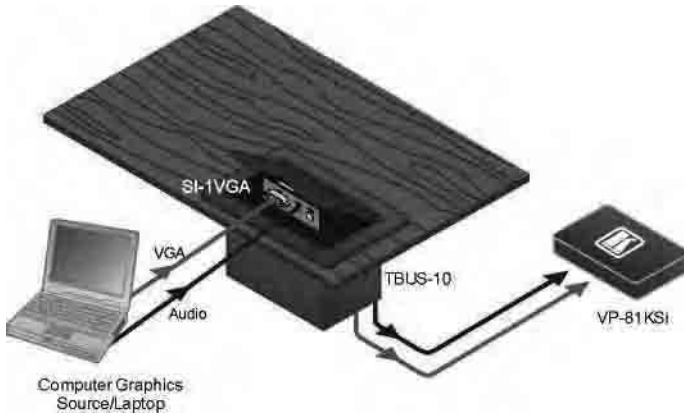

Figure 7: Connecting the SI-1VGA
**To connect an SI-1VGA remote step-in module to the VP-81KSi as illustrated in the example in Figure 7:**